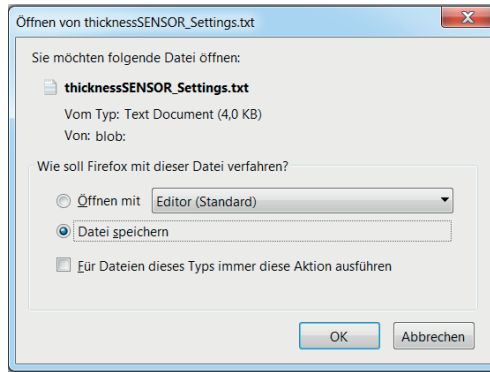

Fig. 45 `Open thicknessSENSOR_Settings.txt` Windows dialog box
- ➡ If you want to save the settings, press the `Export settings` button, see Fig. 44. The `Open thicknessSENSOR_Settings.txt` Windows dialog box opens, see Fig. 45.